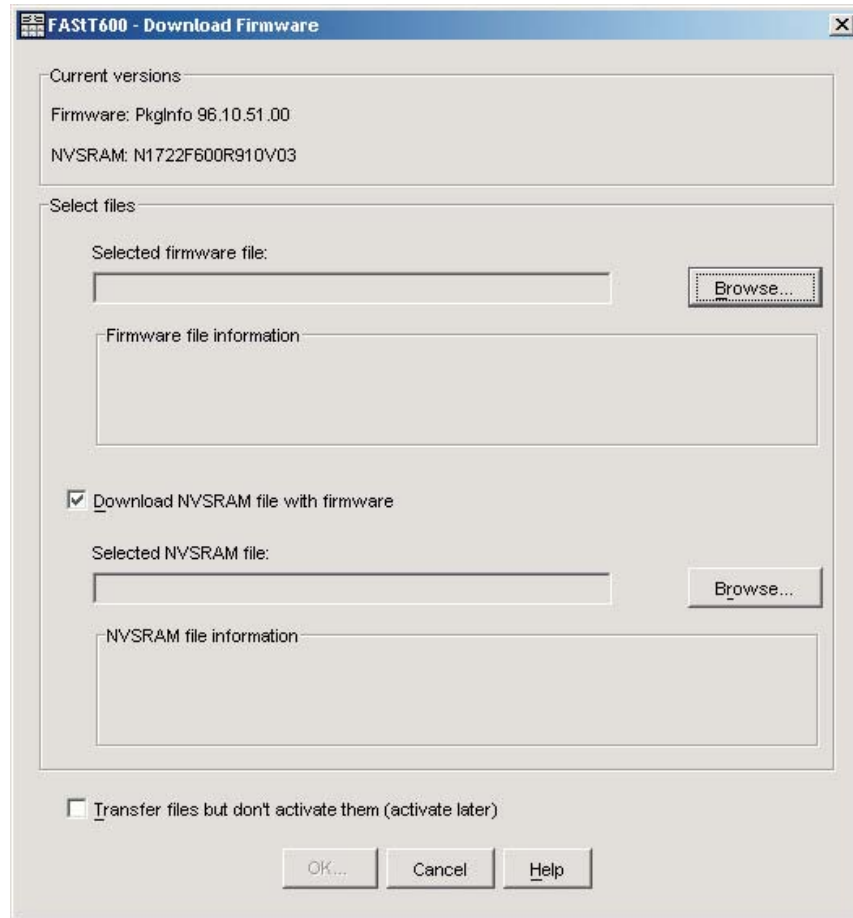

Figure 21. Download Firmware window
3. Click **Advanced** → **Maintenance** → **Download** → **Controller firmware....** The download firmware window opens as illustrated in Figure 21 on page 127.